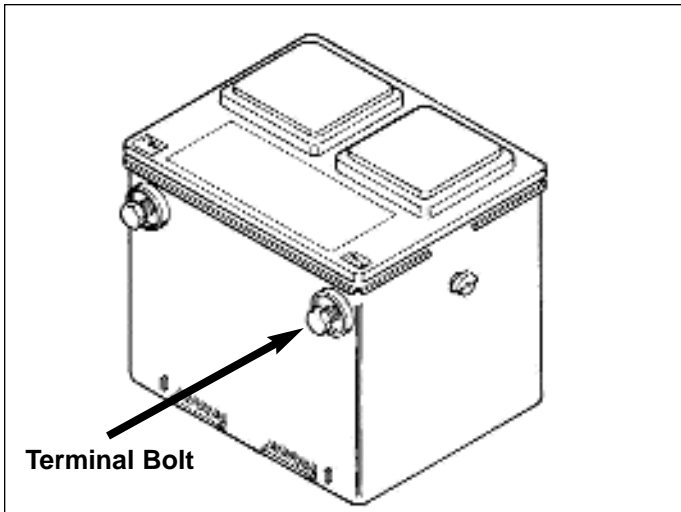

Figure 18 - Battery Removal
- Thread a 3/8-16 bolt into each terminal, hand tight, Figure 18.